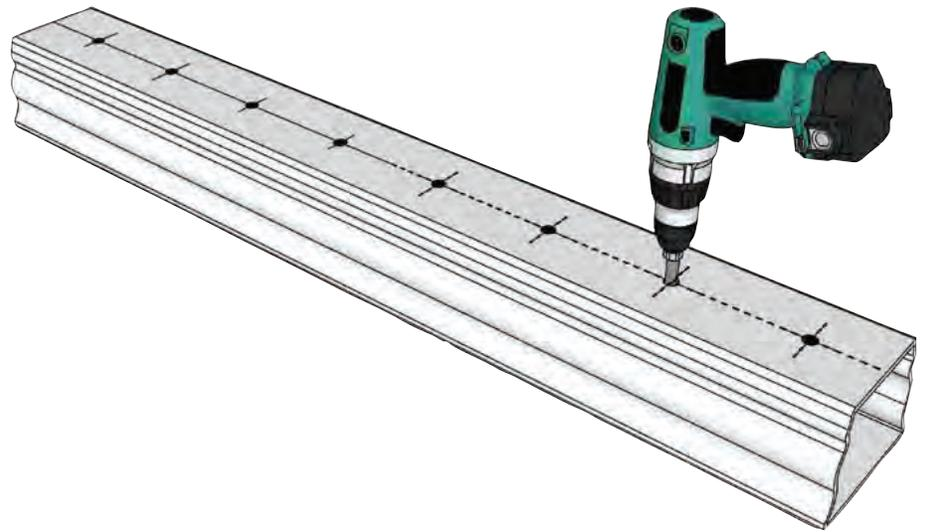

Figure 3
4. Spindle Spacing and Pre-Drilling (Figure 3)